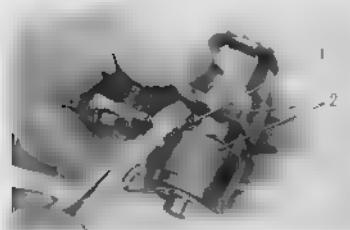

Fig. 3.98 Removing the gear shift fork
- ① Transmission main shaft
- ② Transmission counter shaft
- ③ Gear shift drum
8. Remove the gear shift guide pin clip ① and pull out the gear shift fork guide pin; the gear shift fork ② can be disassembled from the gear shift drum. (Fig. 3.98)